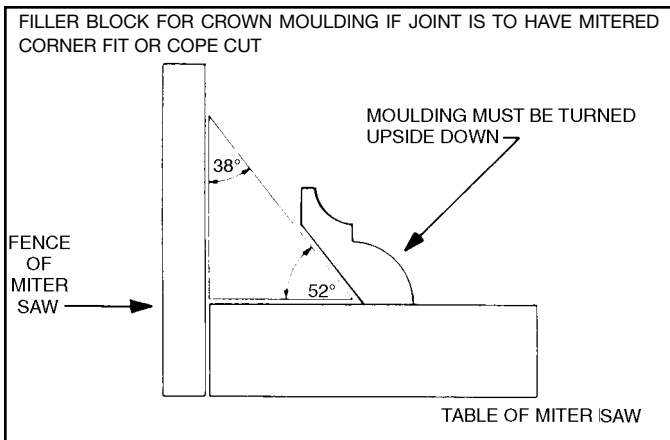

Fig. 36
2. When a large number of repetitive cuts of crown moulding are required we suggest the use of filler blocks, as shown in Fig. 36 through Fig. 39. The majority of crown mouldings have contact surfaces at 52 and 38 degrees to the rear surface of the moulding and these angles must be utilized when jointing the face of the filler block. For crown mouldings with different angles, appropriate filler blocks can be produced.
3. Fig. 36 and Fig. 37, illustrate the filler block fastened to the miter saw fence with the face of the filler block extending outward from the top of the fence and down to the surface of the table. When the filler block is positioned in this manner, the crown moulding must be positioned on the table in the upside down position. This means that the surface of moulding that contacts the ceiling is against the table.